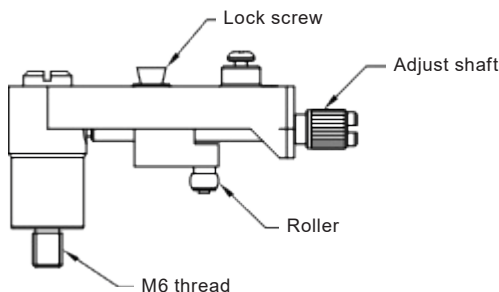

Fig. 16 Linear span assembly
Central mount - If the actuator axis moves down when input signal is increased, assemble the "Span" to lower M6 Tap hole like the below Fig. 16. (DA)